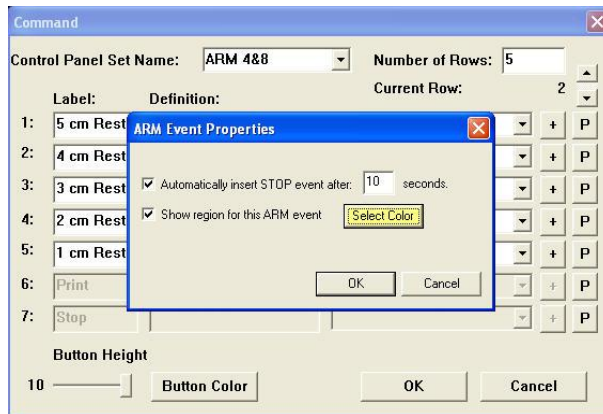

Figure 186: ARM Event Properties Window
- To add shading between start and stop events, select *show region for the ARM event*, and click the *Select Color* box to choose the color. Click **OK** to save changes and close the *ARM Event Properties* window (Figure 186).
8. To add shading between the start and stop events, select *show region for the ARM event*, and click the *Select Color* box to choose the color (Figure 186). Click **OK** to save changes.